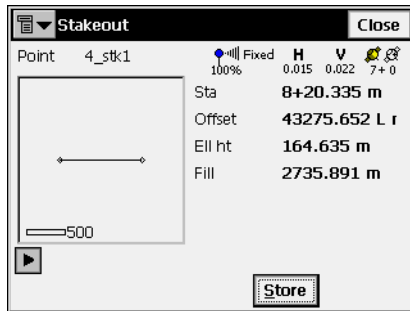

Figure 7-44. Stakeout
5. For GPS+: use the information on the *Stakeout* screen for finding the target. Tap **Store** after the position is close enough to the desired point (Figure 7-44 on page 7-29).